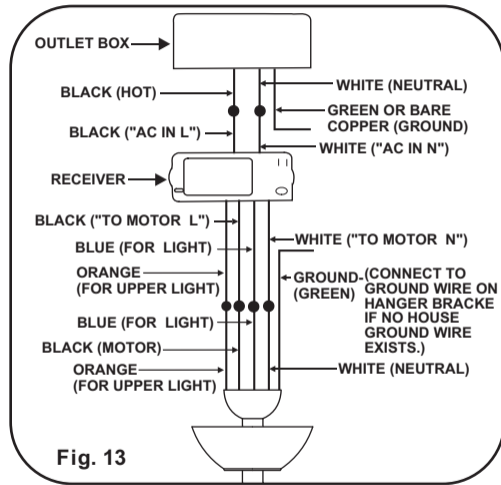

Fig. 13
NOTE: If your ceiling fan features an UP Light: Connect the **ORANGE** wire from the fan to the **ORANGE** wire marked "For Up Light" from the Receiver. Otherwise disregard this step and proceed to secure all wire connections with the plastic wire nuts provided. (Fig. 13)
Step 3. Receiver to House Supply Wires Electrical Connections: Connect the **WHITE** wire (Neutral) from the outlet box to the **WHITE** wire marked "AC in N" from the receiver. Connect the **BLACK** wire (Hot) from the outlet box to the **BLACK** wire marked "AC in L" from the receiver. Secure all wire connections with the plastic wire nuts provided. (Fig. 13)
Step 4. If your outlet box has a **GROUND** wire (Green or Bare Copper) connect this wire to the Hanger Ball and Hanger Bracket Ground wires. If your outlet box does not have a Ground Wire, then connect the Hanger Ball and Hanger Bracket Ground Wires together. Secure wire connection with the plastic wire nut provided. (Fig. 13)